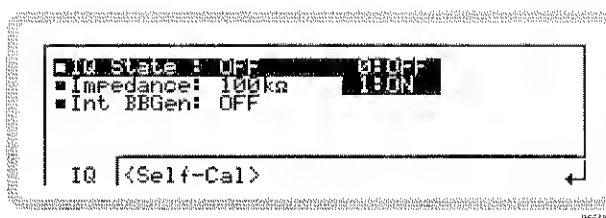

Fig. 3-64 External IQ, analog
- 2 Press **SIG GEN** to show the main screen, and touch the **IQ** soft box to select the function. Touch **IQ** and press **Self-Cal** to view the external analog IQ modulation menu (Fig. 3-64).